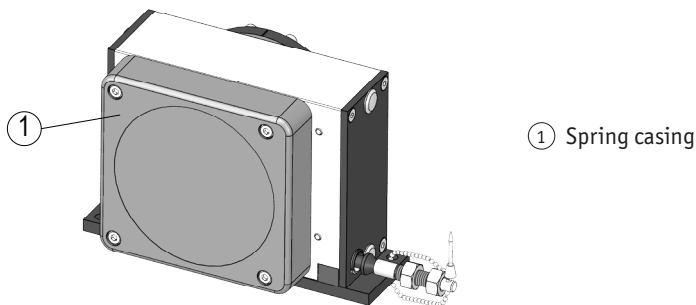

Fig. 1: Spring casing
- ▶ Do not open the spring casing of the wire-actuated encoder (see Fig. 1).